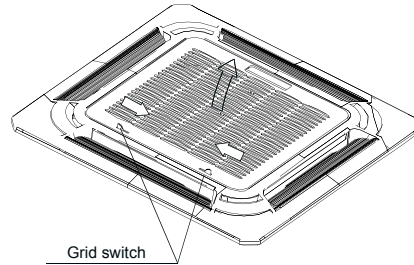

Fig.5-27
- Slide two grill switches toward the middle at the same time, and then pull them up. (Refer to Fig.5-27)